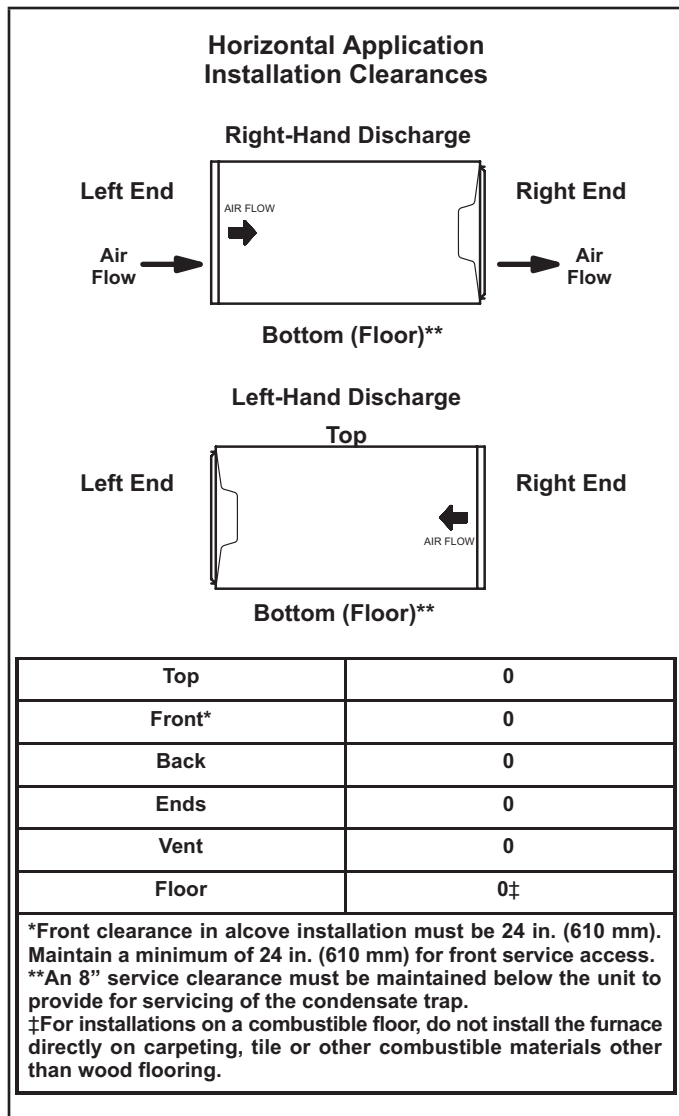

Figure 17
The EL196UHE furnace can be installed in horizontal applications with either right- or left-hand air discharge. Refer to Figure 17 for clearances in horizontal applications.
- 1 - Select location for unit keeping in mind service and other necessary clearances. See Figure 17.